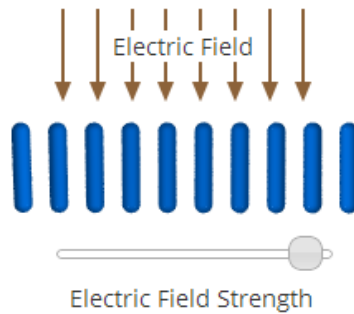
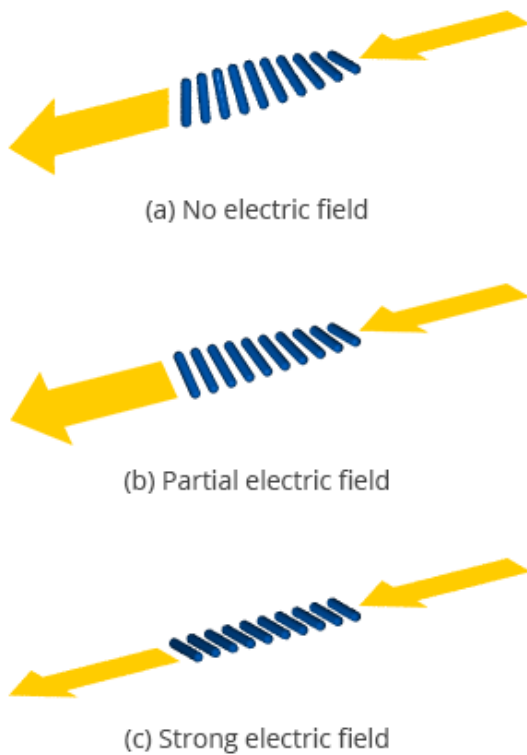

Figure 54: In-plane-switching of liquid crystals (Online demo)
Figure 55: Effect of liquid crystals on light polarization
LCDs commonly use what are known as *Twisted Nematic* (TN) crystals. The molecules of a TN liquid crystal are cylindrical and are oriented in a twisted pattern as shown in Figure 54 (move slider to the left). The first molecule is perpendicular to the last molecule, and the in-between molecules automatically align themselves to form a twisted structure.
These liquid crystals have two special properties that play a critical role in LCDs. The first is their ability to orient themselves along an electric field when one is applied. In the demo in Figure 54, when you increase the strength of the applied electric field by moving the slider to the right, the molecules of the liquid crystal get untwisted. For a strong field, the molecules are all aligned with the field. The second property is the ability of liquid crystals to twist the polarization of light passing through them. As shown in Figure 55, when no electric field is applied across the crystal, its molecules rotate the plane of polarization by 90 degrees. That is, horizontally polarized light becomes vertically polarized. When a partial electric field is applied, the polarization plane is partially twisted to be between horizontal and vertical. When a strong electric field is applied, the light passes through with its polarization unchanged.